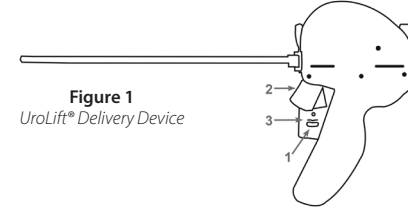

Figure 1
The Delivery Device (**Figure 1**) is designed to access the prostatic urethra and deliver one implant through the lobe of the prostate.
- 1.7 Inspect device tip and confirm that needle is not visible. Inspect Needle Safety Lock (Figure 1) and confirm that it is in the locked (forward) position.